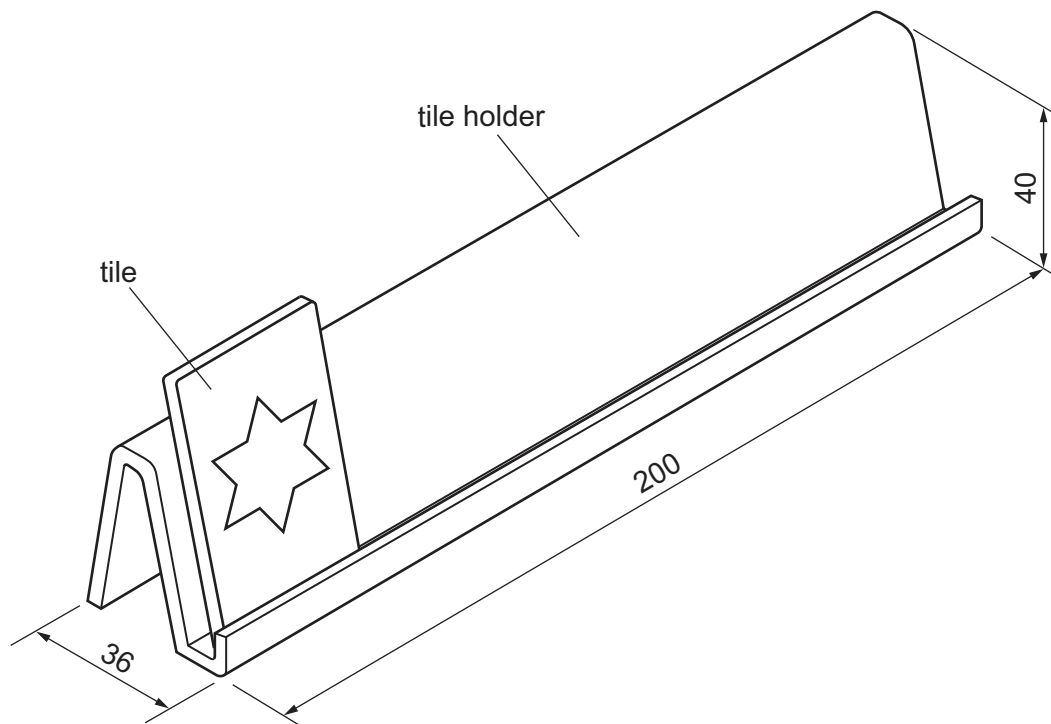

Fig. 1.1
- 1 Fig. 1.1 shows details of a tile holder for a game.
- (a) State a suitable material for the tile holder shown in Fig. 1.1.
- (b) Use sketches and notes to show how you would make **one** tile holder as shown in Fig. 1.1 in a school workshop.